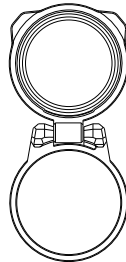

Fig 9
1. T10 Torx tool with flat driver to adjust windage & elevation. (See Figure 9)